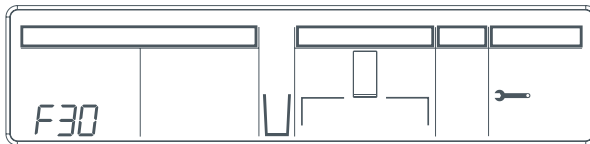

Fig.19 Fault code display
- If the bin is full of ice, inserted incorrectly or if all bins are removed, the ice maker will not operate. When the bin is inserted correctly the scoop will be on the right hand side of the bin for models E402B, E442B and E522B and at the front of the bin for RF540A models (refer to Fig.19).